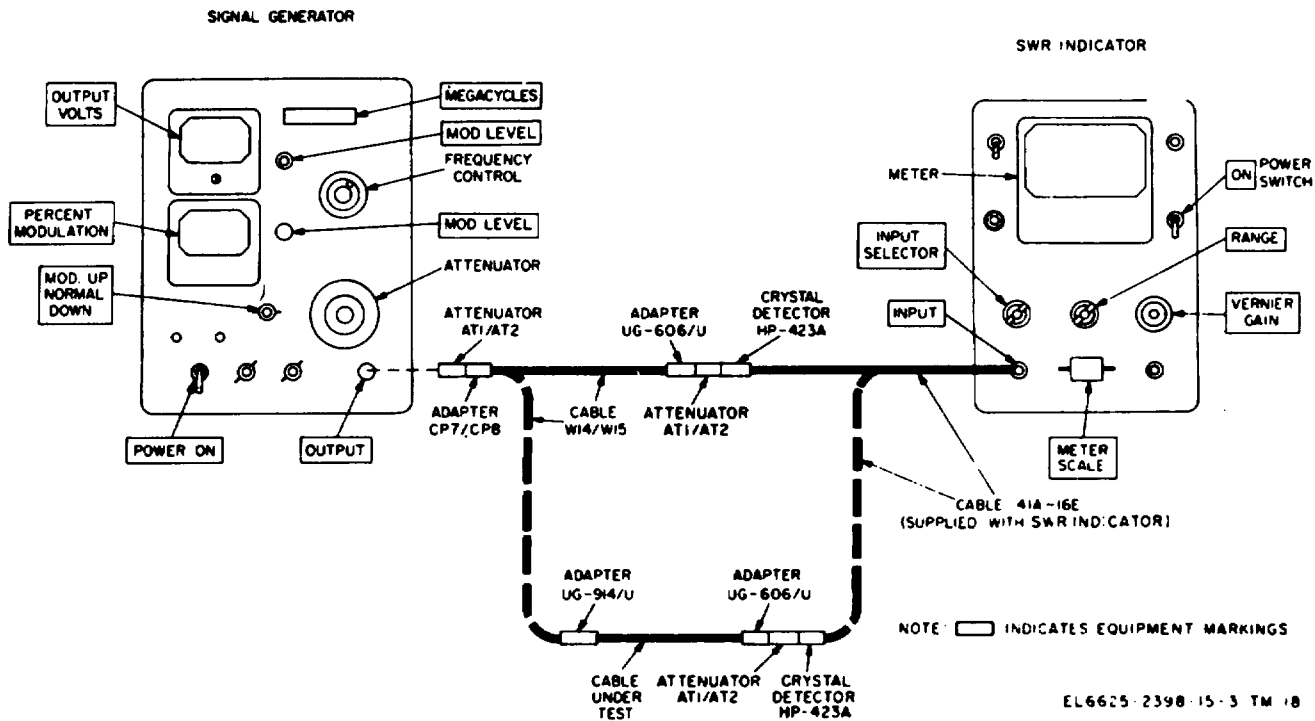
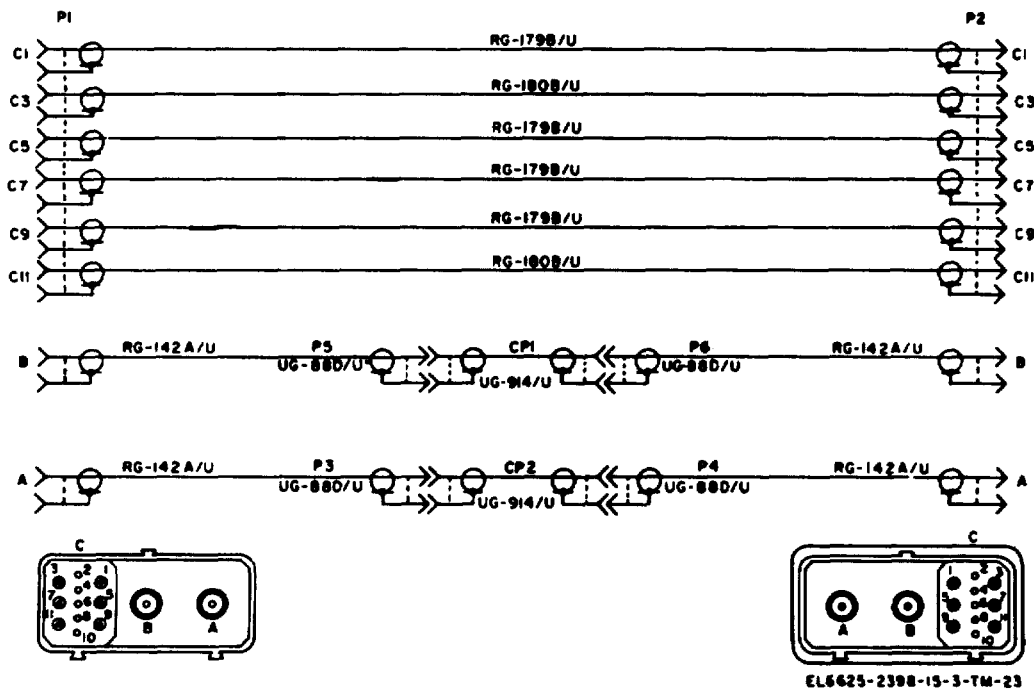

Figure 6-6. RF cable insertion losses, calibration connections.
Figure 6-11. Cable W39, schematic diagram.
(fig. 6-6)
**Connect the test equipment as shown in solid lines of figure 6-6.**
(1) On the signal generator, set the MEGACYCLES; dial to 1030 with the frequency control knob. Set the function switch to 1000~, the MOD. UP-NORMAL-DOWN to NORMAL, and the attenuator to 0dB (outer scale). Turn on the signal generator and allow a minimum of 20 minutes warm-up period before proceeding. Adjust the MOD LEVEL, control for a reading of 50 on the PERCENT MODULATION meter.
(2) With the METER SCALE set to EXPAND, and the INPUT SELECTOR set to XTAL-200K $\Omega$ , turn on the SWR indicator and allow a minimum of 10 minutes warm-up period before proceeding.
(3) Adjust the VERNIER GAIN control and the RANGE switch for a reading of 0 (zero) on the EXPANDED DB scale of the SWR indicator meter.
(4) Connect the unused W14/W15 cable as shown with broken lines in figure 6-6.
(5) Read insertion loss on the EXPANDED DB scale of the SWR indicator meter, reading must not exceed 2.5. Replace or repair (para 7-7) the cable if the insertion loss exceeds 2.5dB.
(6) Compare insertion loss with 1030MHz insertion loss marking on cable sleeve. Change the marking (by scraping off ink and remarking with India ink) if measured insertion loss exceeds +0.2dB of marked insertion loss.
(7) Reconnect the test equipment as shown with solid lines in figure 6-6 and set the MEGACYCLES dial of the signal generator to 1090MHz.
(8) Repeat steps (3) through (6) except compare insertion loss with sleeve marking for 1090MHz.
(9) Substitute the calibrated W14/W15 cable
for the uncalibrated cable and connect the test equipment as shown with solid lines in figure 6-6.
(10) Repeat steps (7) and (8) for the uncalibrated W14/W15 cable.
(11) Reconnect the test equipment as shown with solid lines in figure 6-6 and set the MEGA- CYCLES dial of the signal generator to 1030MHz.
(12) Repeat steps (3) through (6) above.
*c. Procedure for Cable W39 (fig. 6-11).*
(1) Remove and retain couplers CP1 and CP2. Remove the retaining clips on one end of the cable by loosening six screws on the shell (four cornered on the mating side and two